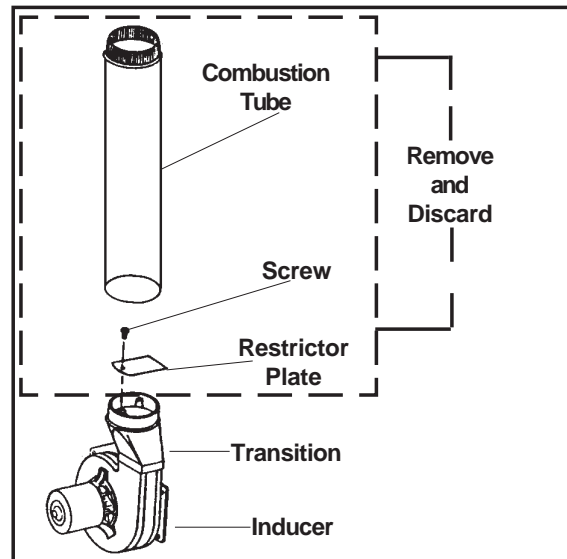

Figure 18. *RK Horizontal Vent Modification
3. To gain access to the restrictor plate, remove and discard the combustion tube from the transition assembly. **Insure the seal between inducer and transition assembly is not broken.** (See Figure 18.)
4. Remove and discard the restrictor plate and screw from the transition assembly. (See Figure 18.)